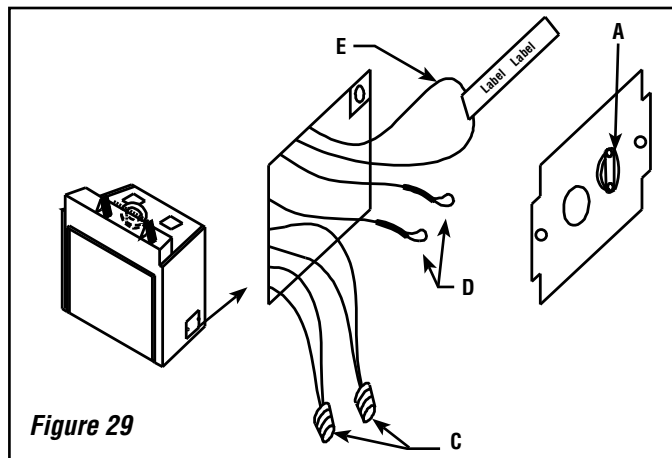

Figure 29
- * The electrical box is located at the right rear of the fireplace (see **Figures 29 and 30**). Remove the cover, loosen the wire clamp A and feed the household supply line through the clamp and retighten clamp.
If desired, a wall-mounted blower speed control can be installed. The breaker supplying electricity to the fireplace must be turned off at the electrical panel before any connections are made. The loop of wire with the label attached (E in **Figure 29**) may be cut and the wire leads from the wall-mounted speed control connected to each end of the cut wire.
The remaining red and white wires with capped ends (wires D in **Figure 29**) are for the optional Forced Air Duct System. See the instructions provided with the system for installation details.